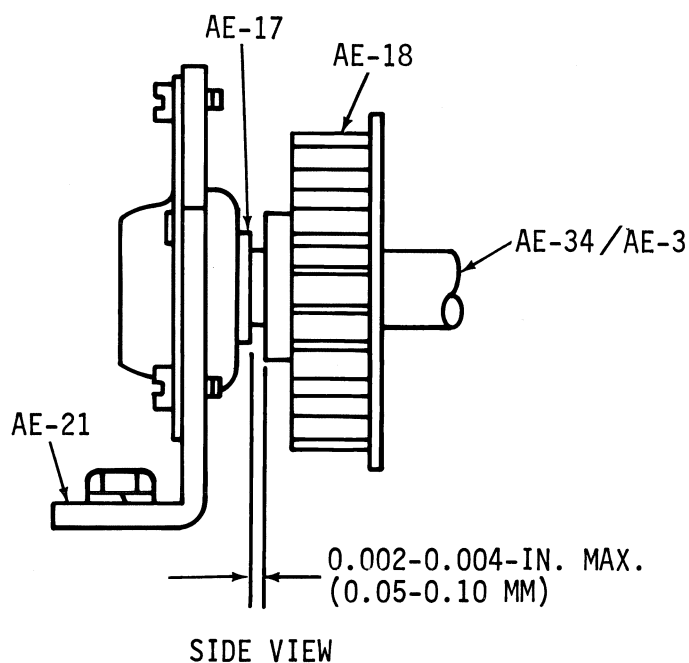

Figure 5-6. BUSHING END-PLAY ADJUSTMENT FOR
C. Bushing End-Play Adjustment (Applies to both Air-Gap and Preload Clutch) (Refer Fig. 5-6)